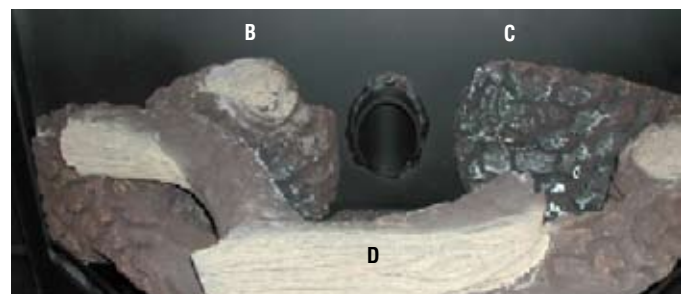

Figure 33
3. Remove the ceramic logs from the box and carefully unwrap them. Position each back log (*Figure 33, B, C*) in their proper place, one on each side against the back of the firebox.
4. The front log should face the front of the firebox with the wood grain showing. It should rest on the other two back logs. See *Figure 33* for assembled log set.